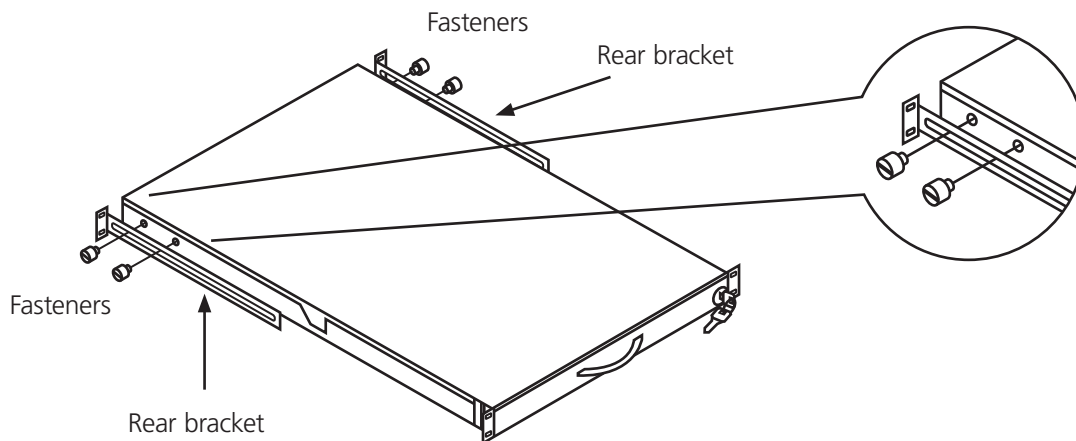

Figure 3-1. Installing the rear L-bracket to the LCD keyboard drawer.
1. Install each rear L-bracket using two fasteners shown in Figure 3-1. Leave the fasteners slightly loose.